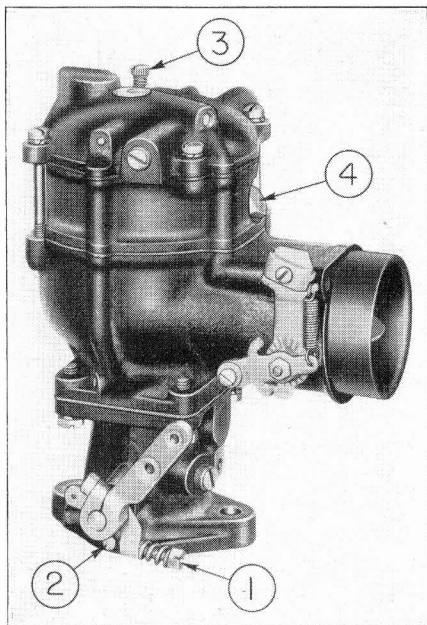

Figure 1
1. The throttle stop screw (1), Fig. 1, should be screwed in (clockwise) against the stop pin (2) to hold the throttle just slightly open. Adjust the throttle stop screw to obtain the desired idling speed of the engine.
2. The idling adjusting screw (3) should be from 1 to 1½ full turns off its seat. Adjust the idling adjusting screw to obtain smooth idling when engine has become thoroughly warmed up. Turning the screw in (clockwise) cuts off air, making the idling mixture richer; while turning it out (counter-clockwise) admits more air, making the mixture leaner.
3. Some models of this series are supplied with a main jet adjustment which is installed in place of plug (4), Fig. 1. Turning the needle clockwise cuts off fuel making the medium and high speed mixtures leaner. The needle should be adjusted to give highest manifold vacuum (or highest R. P. M. on a tachometer) for a set-throttle position. (This is usually about 1½ full turns (counter-clockwise) from the seat.) If engine is equipped with speed governor, set the throttle to hold the engine speed just below the governed speed while adjusting the main jet adjustment. If adjustment is set too lean, the engine will lack power and the fuel economy also will be poor. If set too rich, the engine will be sluggish and the fuel economy poor.